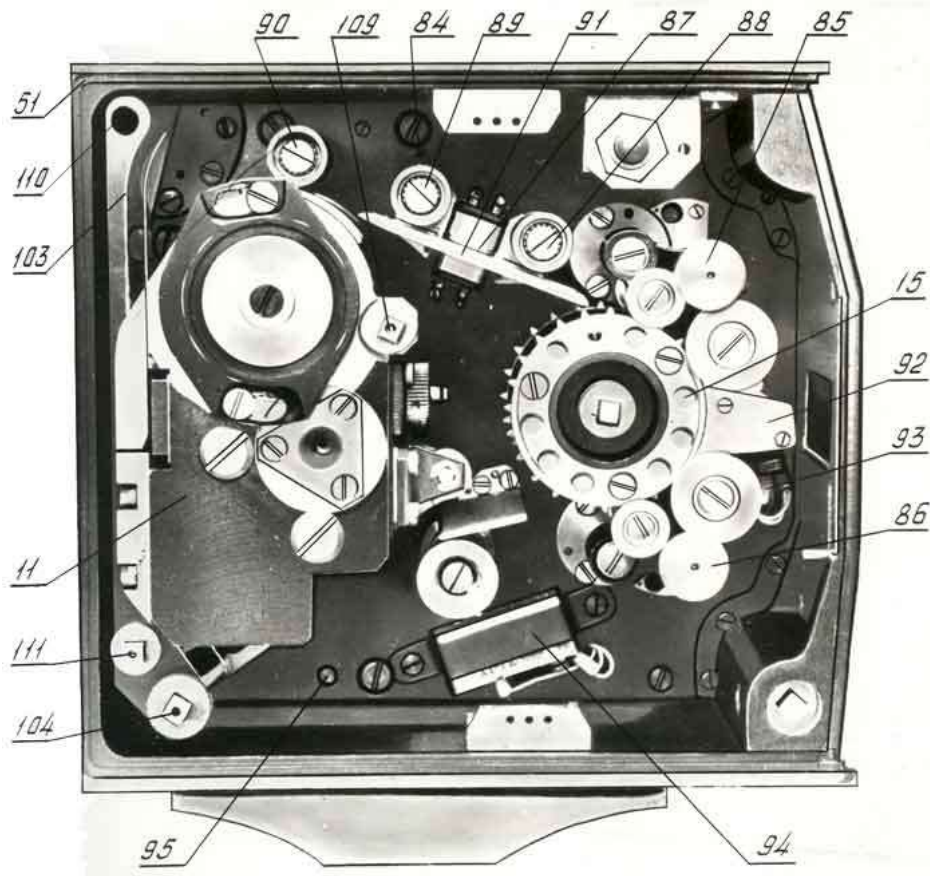

Figure 14. The camera gears
Board (84) (Figure 14) holds the film movement mechanism consisting of:
- 1) claw mechanism (11);
- 2) sprocket (15) with top (85) and bottom (86) carriages;
- 3) marker (87) of time pulses;
- 4) damping rollers (88), (89), (90);
- 5) guider (91);
- 6) film stripper (92);
- 7) sensor (93);
- 8) thermo switch (94);
Front film gate is mounted on the pin (110) (Figure 14) and secures by means of the latch (104).